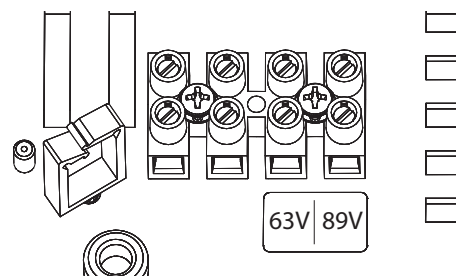

Fig. 2-22, Voltage Wire Position
- Loosen the terminal screw and move the Output Voltage Wire to the desired output voltage position on the Output Voltage Terminal (see Fig. 2-22).